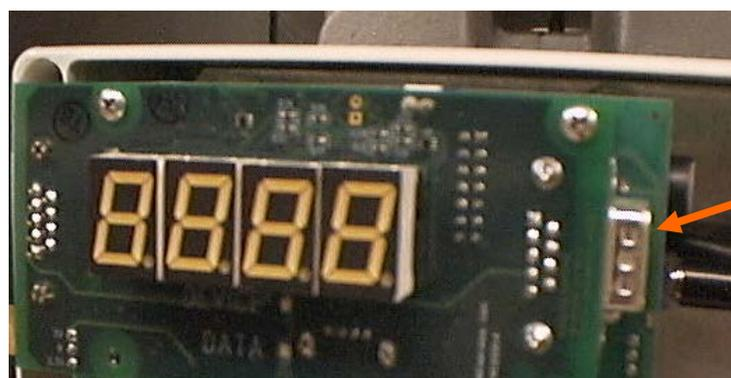

Figure A-19: ZENO® Data Logger’s Serial Port
1. Make sure to put on an ESD ground strap and remove the front cover (remember to keep the desiccant bags). Locate the ZENO® data logger’s serial port (see Figure A-19).